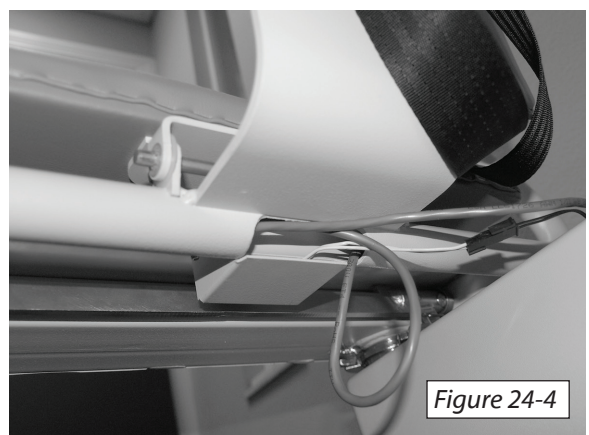

Figure 24-4
7. Tuck any excess wire back into the armrest bar. *[Figure 24-4]*